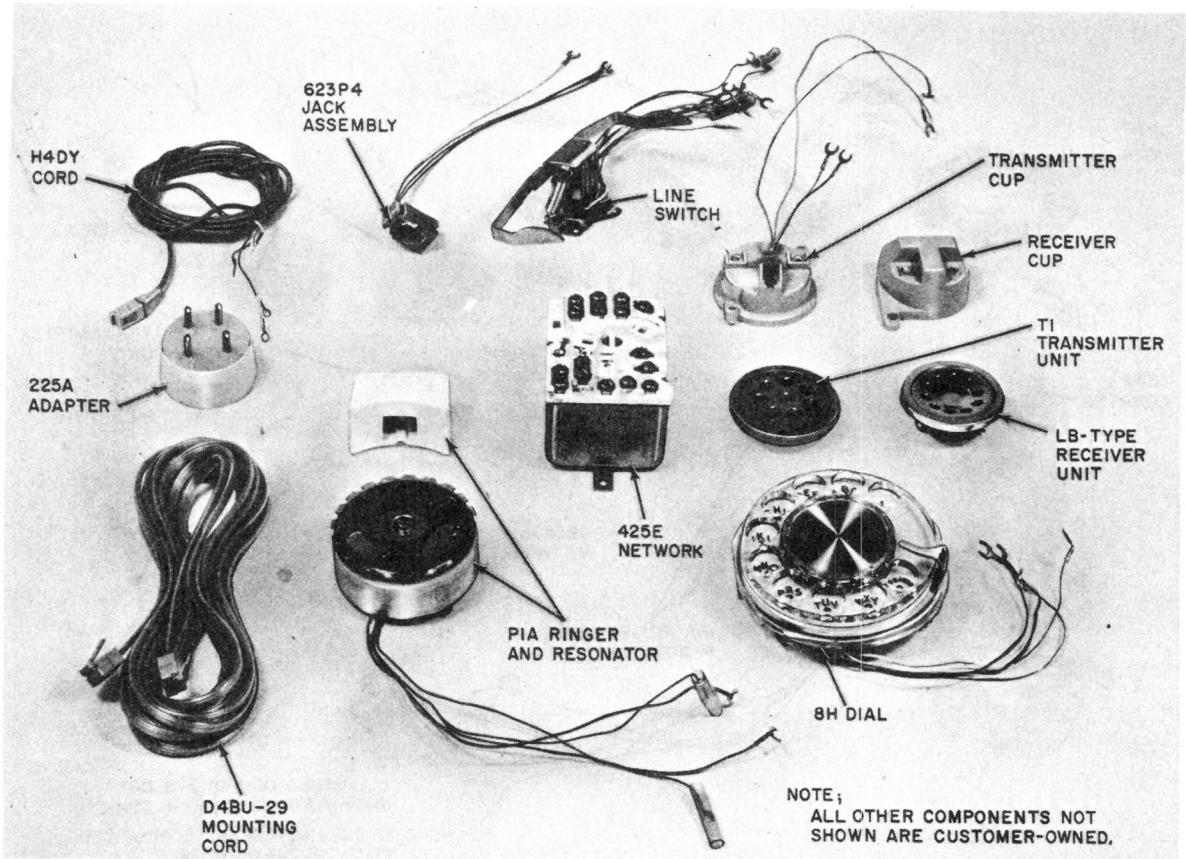

Fig. 5—Telephone Company-Owned Components (Set Equipment with a Rotary Dial)
- Add new Fig. 5 and 6, telephone company-owned components
4.01 When it is desired to discontinue telephone service of the 910A or 2910A DESIGN LINE telephone set remove the telephone company-owned components that are screwed to the base or can otherwise be easily removed. Refer to Fig. 5 and 6 for identification of company-owned components and proceed as follows: